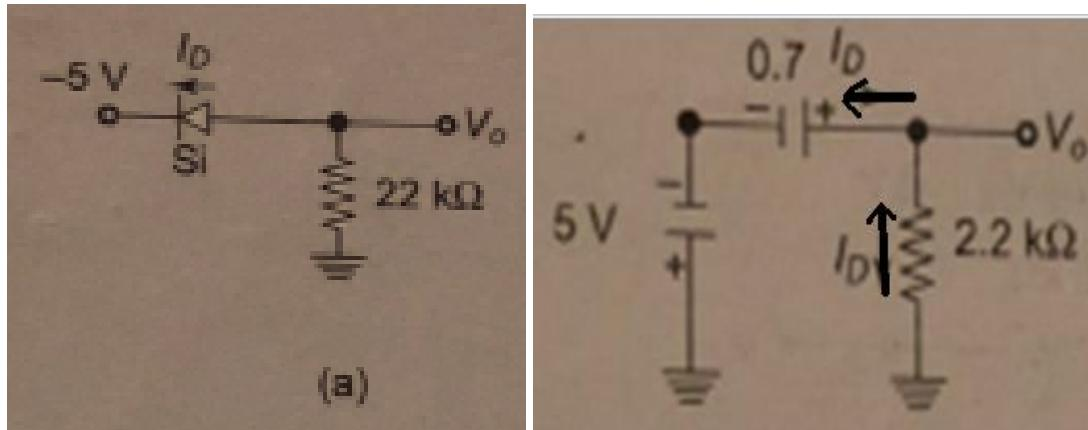

Fig.8
**Problem Q8:** For the diode circuits of Fig.8 , determine  $I_D$  and  $V_O$  using approximate model of the diode.